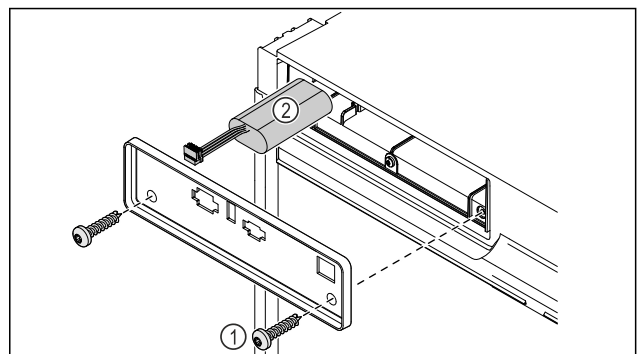

Fig. 192
- Unscrew the screws and remove the cover on the back of the appliance *Fig. 192 (1)*.
- Disconnect and remove the battery *Fig. 192 (2)*.